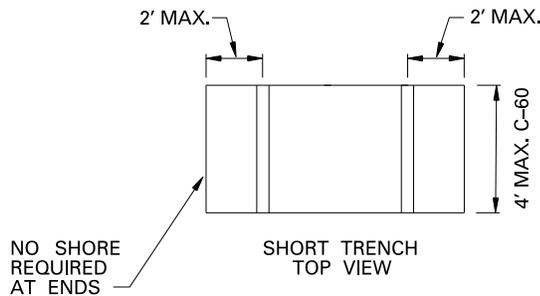

Fig. 2
6. The shores shall be placed at the required spacing from end to end of the excavation with a minimum of 2 shores. There shall be a shore within 2' of each end of the excavation. If trench **width** is 4' or less, no end protection is required. See Fig. 2.